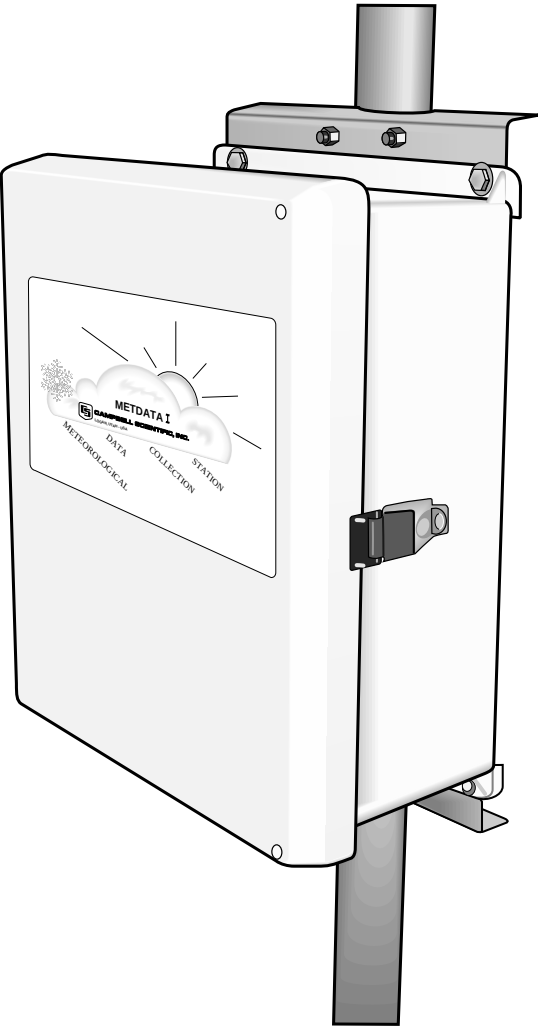

FIGURE 3.1-1. MetData1 Enclosure
Step 1) Mount MetData1 enclosure on the station platform as shown in Figures 3.1-1 or 3.1-2.